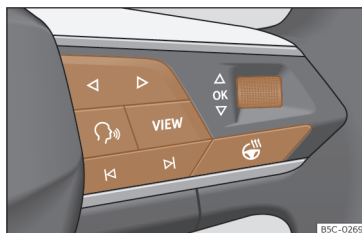

Fig. 11 Right side of multifunction steering wheel: buttons to the menus and informative indications on the instrument panel (depending on the version).
As long as a priority 1 >>> page 25 warning is active, it will not be possible to access any menu. Some warnings can be confirmed and hidden with the **OK** button of the multifunction steering wheel >>> Fig. 11.
- If a message or vehicle symbol is displayed, press the **OK** button >>> Fig. 11; several times if necessary.